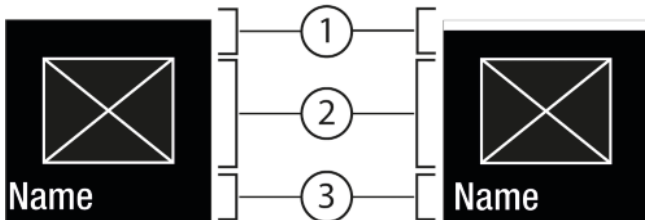
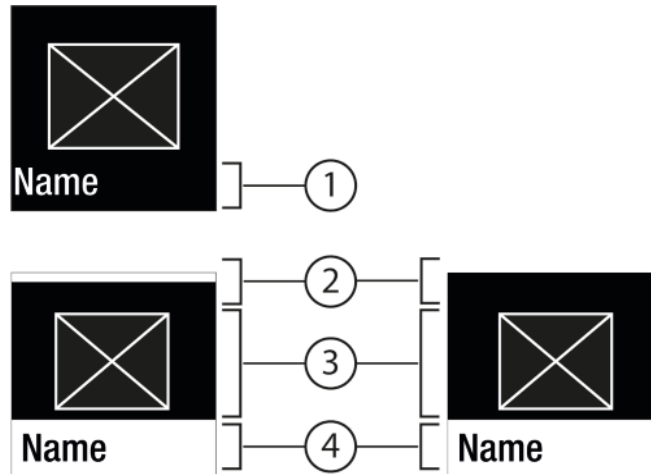

Fig. 7
Fig. 8
- Press Confirm Fig. 6 (2) to activate Fig. 7 (1) / deactivate Fig. 7 (1) the function.
- Press Confirm Fig. 6 (2) to open the submenu Fig. 8 (4).
- Set a new value: Press Confirm Fig. 6 (2) to select an active value Fig. 7 (1).
- Back to the menu: Press Confirm Fig. 6 (2) to select the active value Fig. 7 (2).
- ▷ Status: On *Fig. 7 (1)* appears briefly in the submenu *Fig. 8 (4)*.